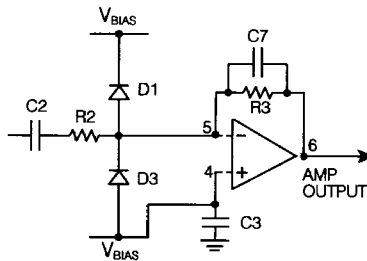

Figure 2 - Recommended External Components
(2) Input Amplifier gain components (Figure 2 a & b). These components set the gain required to achieve the various National Level Specifications. Instructions for gain calculations are given in Figure 3 and Note 4 (below).
(3) Protection diodes: since most telephone systems operate at voltages in excess of the Absolute Maximum limits for damage, diodes D_1 - D_4 are *essential* for device protection.
(4) Calculation of gain components: